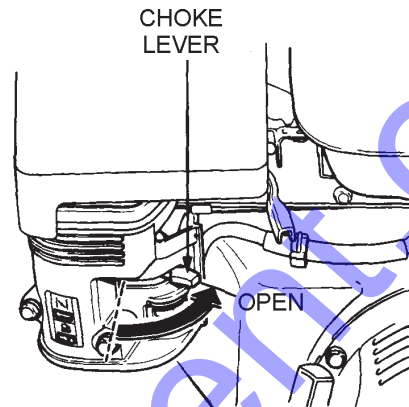

Figure 9. Engine Choke Lever (Open)
3. Place the **choke lever** (Figure 9) in the "OPEN" position if starting a *cold* engine.